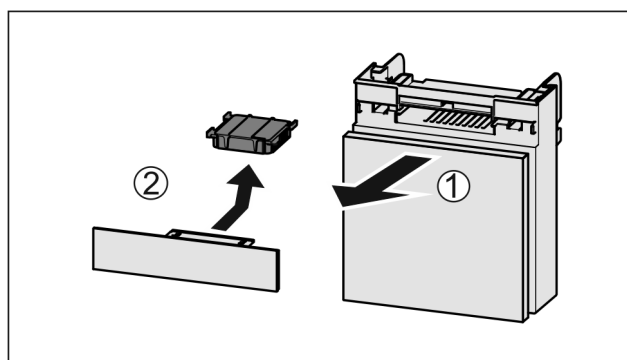

Fig. 33
- Pull out the compartment Fig. 33 (1).
- Remove the carbon filter Fig. 33 (2).